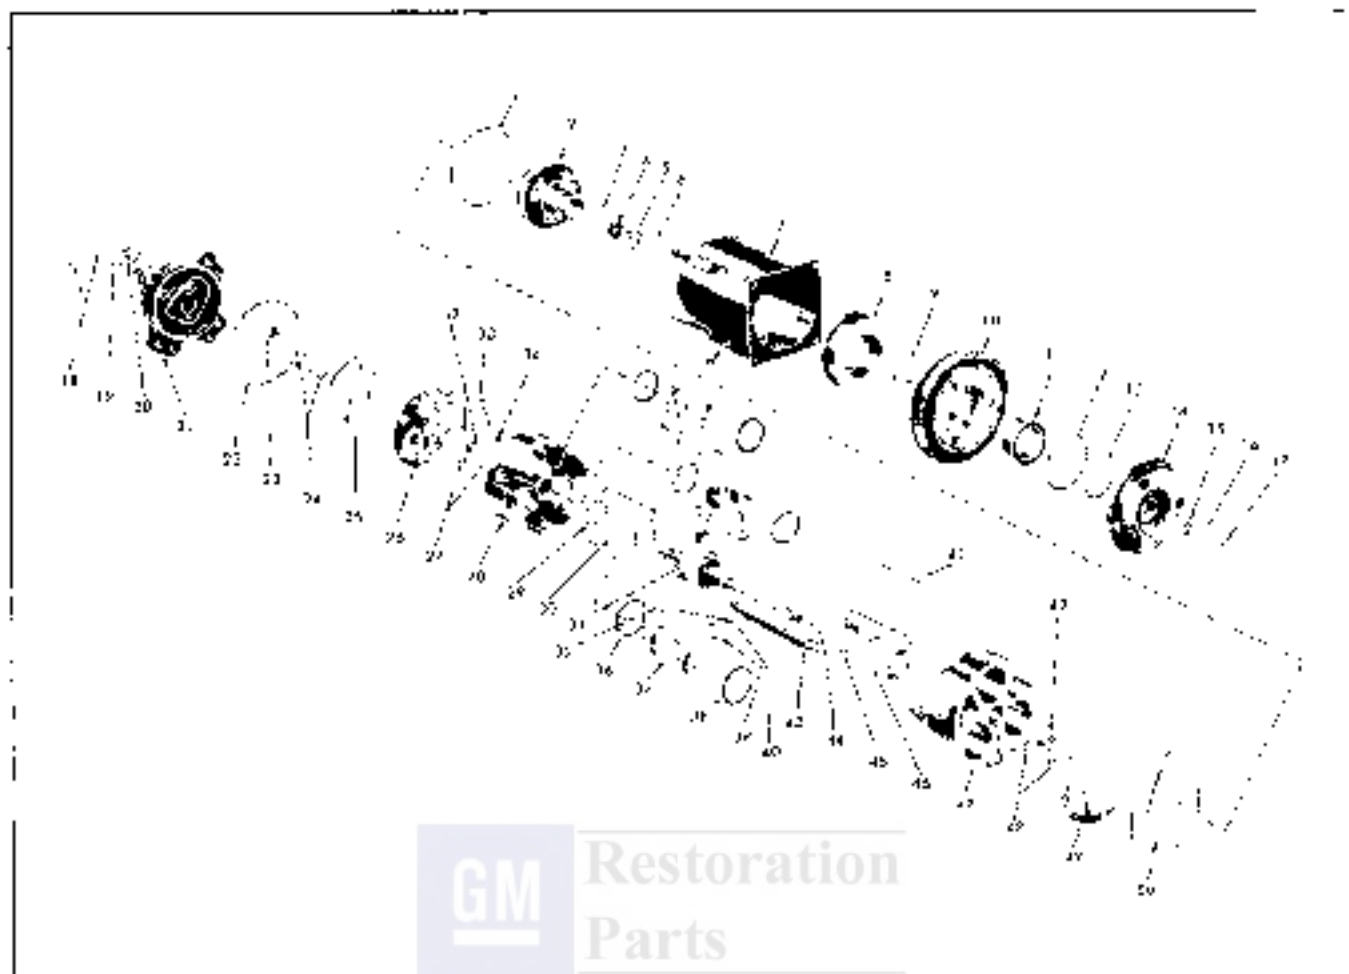

Fig. 1A-27 Exploded View - Compressor Assembly
NOTE: It may be necessary to lift shaft assembly to aid in installing pistons. Hold front thrust bearing pack tightly against swash plate hub while lifting shaft (Fig. 1A-30).
12. Align rear cylinder casting with bores, suction passage, discharge crossover holes, dowel pins, etc. Tap into place using a hard wood or plastic block and mallet (Fig. 1A-31).